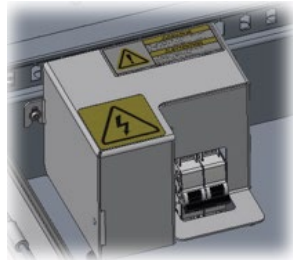

Figure 4. Instrument main power switch.
6. Turn on the instrument using the main power switch (see Figure 4). The update process will start automatically.
2. Shutdown the instrument using the main power switch (see Figure 4).
4. Turn on the instrument using the main power switch (see Figure 4). The update process will start automatically.